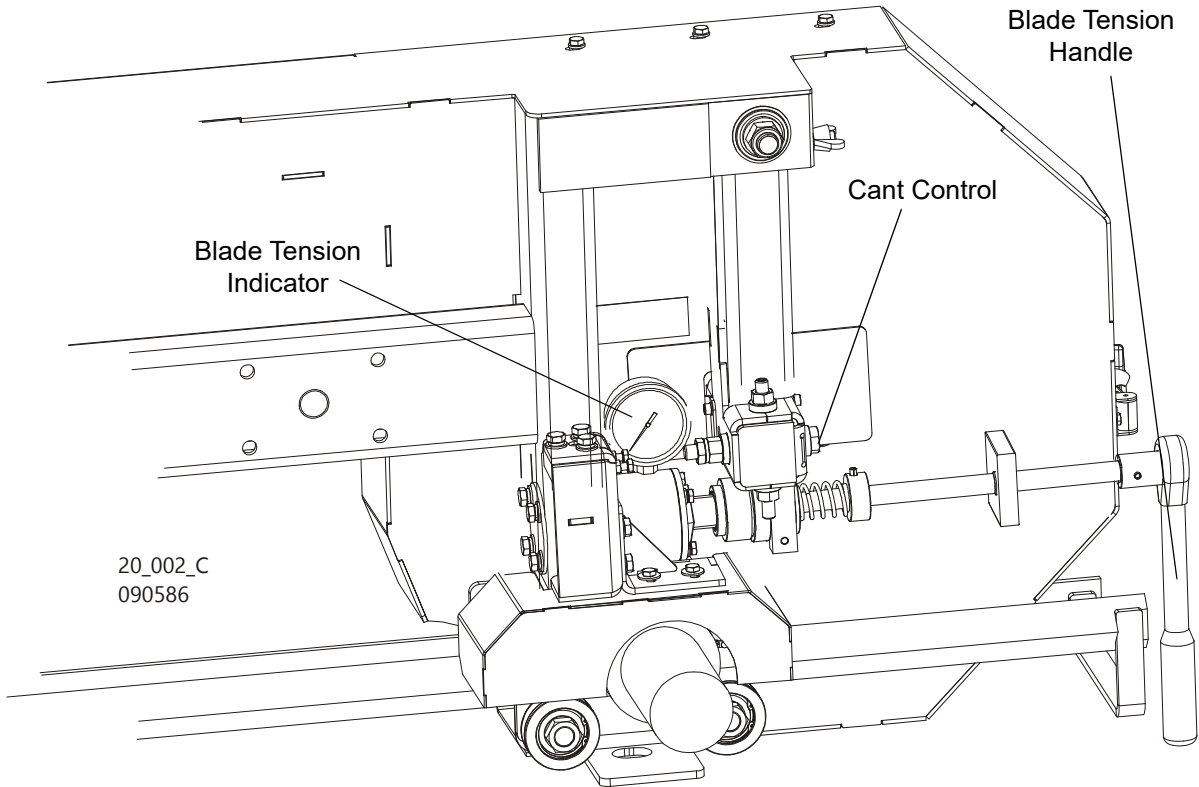

FIG. 3-9
See **Figure 3-9**. Turn the blade tension handle clockwise until the tension gauge indicates the recommended tension. Check the blade tension occasionally when adjusting the cant control or while cutting. As the blade and belts heat up and stretch, the blade tension will change. Also, ambient temperature changes can cause tension to change.
5. Use the cant adjustment bolt, shown in **Figure 3-9** to adjust where the blade travels on the blade wheels.